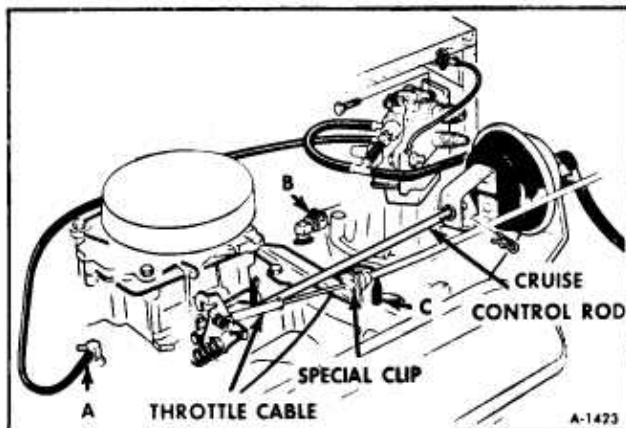
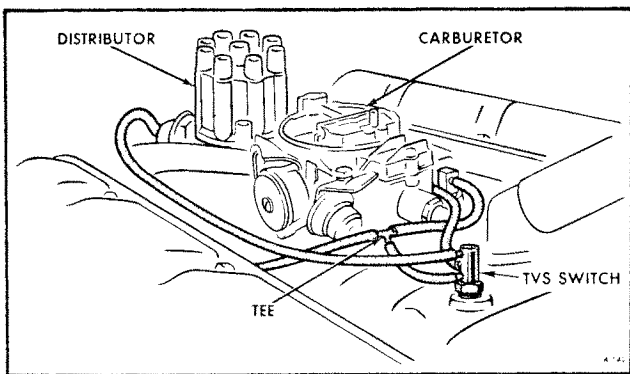

Figure 11-Location for Disconnecting Vacuum Hoses and Throttle Cable
Figure 12—Distributor and Transmission Vacuum Lines
9. Disconnect throttle cable, and cruise control rod (if equipped) from carburetor throttle lever. (See figure 11). Remove cruise control rod.
11. Disconnect vacuum lines from the distributor and tee as shown in Figure 12. Disconnect vacuum line from the front of the carburetor which leads to the carbon canister. Referring to Figure 11, disconnect from the intake manifold-vacuum lines to the brake booster (B), heater control (C) and cruise control (A) (if so equipped).
6. Connect vacuum lines to the distributor and tee as shown in Figure 12. Connect vacuum line to front of carburetor (from the carbon canister). Connect to the intake manifold vacuum lines, to the brake booster, heater control and cruise control (if equipped). See Figure 11.
7. Connect throttle cable, and cruise control (if equipped). See Figure 11.